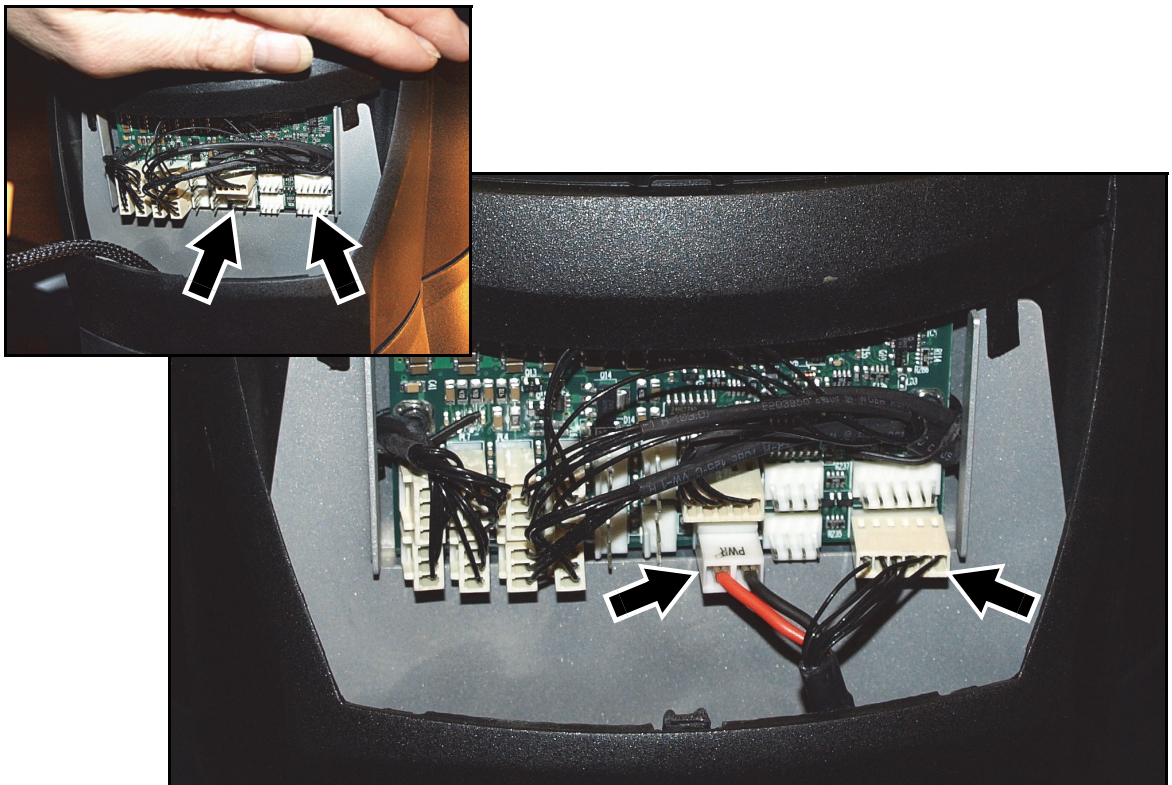

Figure 7
9. See Figure 7. Connect the module end of the wireset to the PCB in the Quadray Module as follows: power to connector PL18 and data to connector PL12.